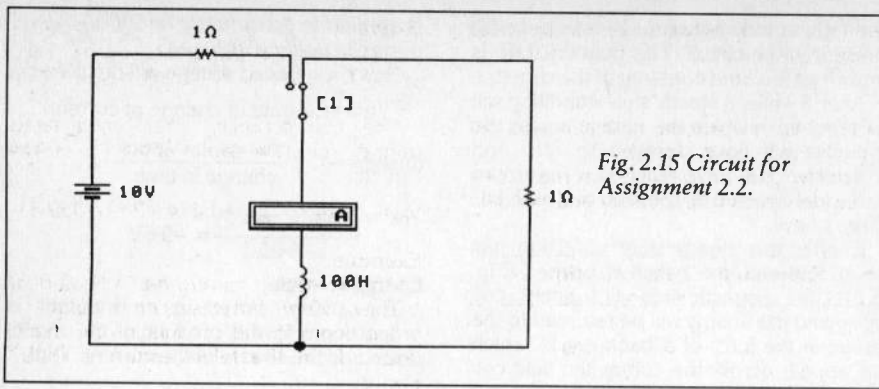

Fig. 2.15 Circuit for Assignment 2.2.
1. Connect the circuit shown in Fig. 2.15. The ammeter is used to indicate the current in the inductor whilst the switch (which can be operated using the 1 key on your keyboard) determines whether the inductor is connected to, or disconnected from, the supply.